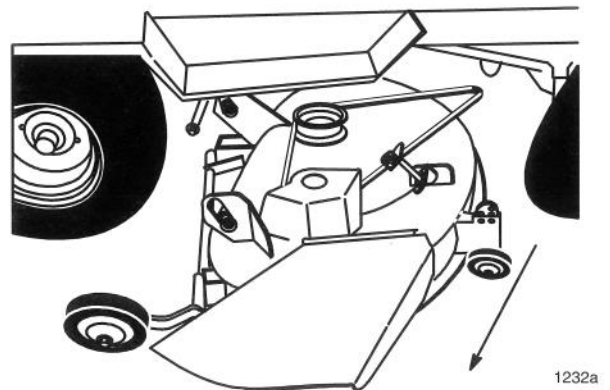

Figure 14
8. Turn the front wheels fully to the left and raise attachment lift lever all the way to the latched position; refer to tractor Operator's Manual. Slide the mower out from under the chassis to the right side (Fig. 14)